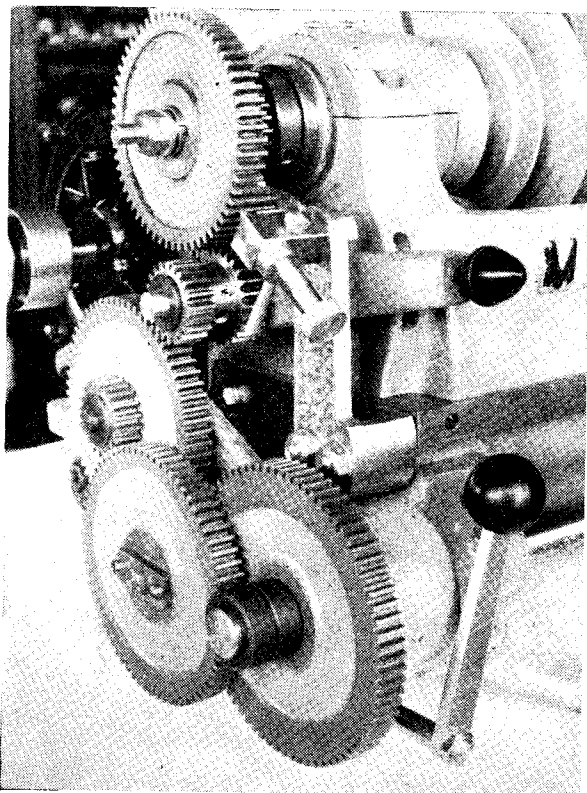
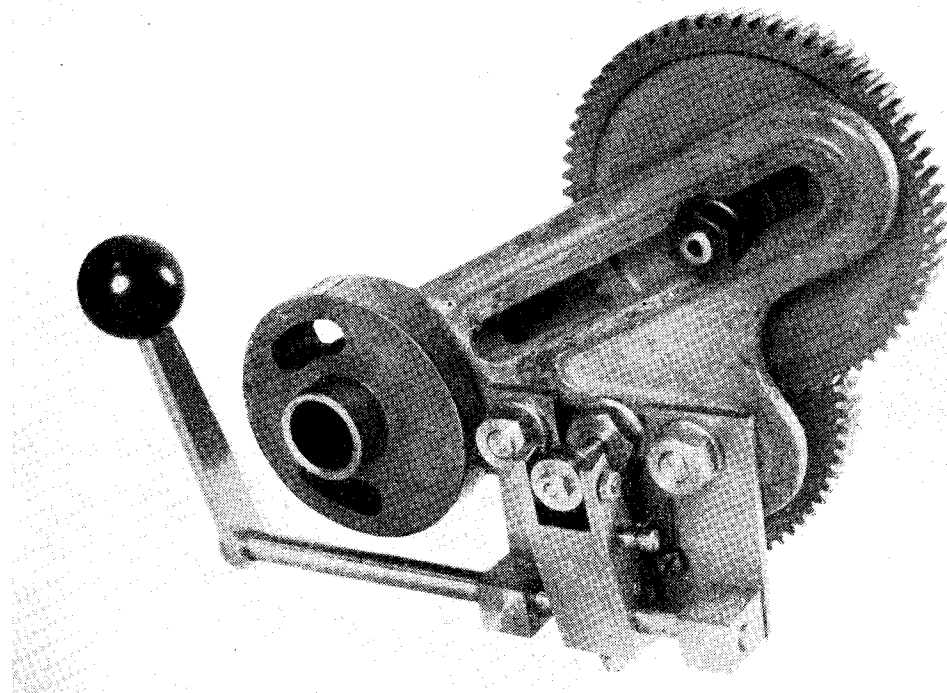
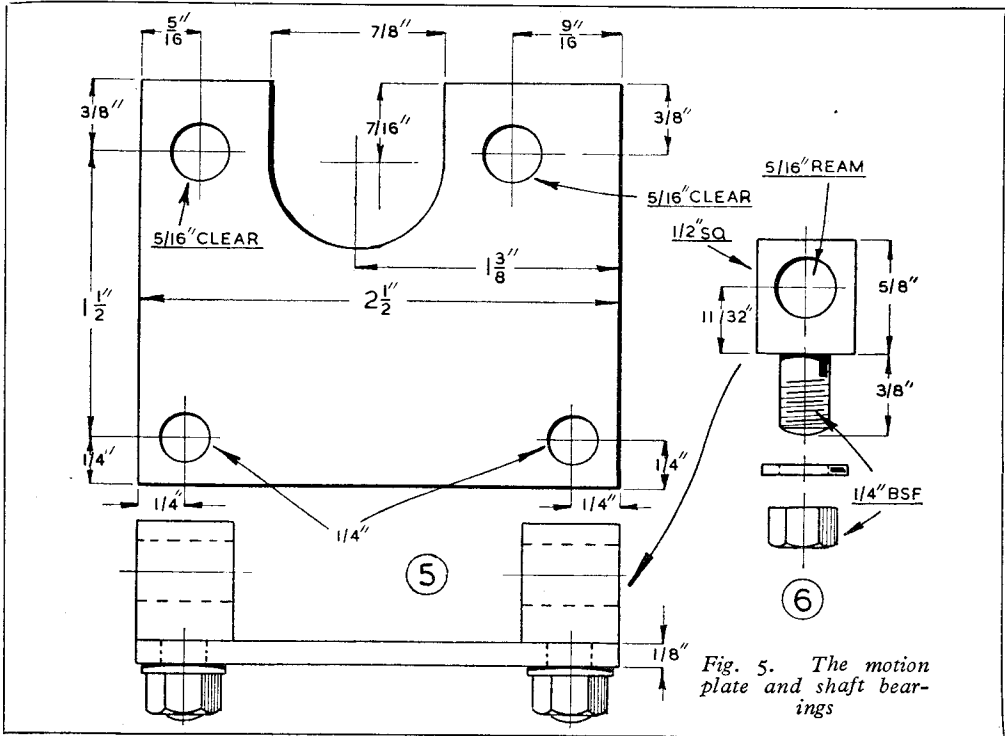

Fig. 1. Showing the gear fitted to the lathe
Fig. 2. View of the back of the gear
Fig. 5. The motion plate and shaft bearings
The appearance of the lathe with the device fitted is illustrated in Fig. 1, and the details of the mechanism when detached from the end of the bed are shown in Fig. 2.
The next operation is to make the motion plate (5) which can be clearly seen in the photograph, Fig. 2, whilst its dimensions are given in Fig. 5. This part is made from mild-steel strip, $\frac{1}{4}$ in. thick, and the gap should be cut out with the hacksaw and file to avoid distorting the material.
The shape of the spring is shown in the drawing, and its position and mode of action are clearly seen in the photograph, Fig. 2.